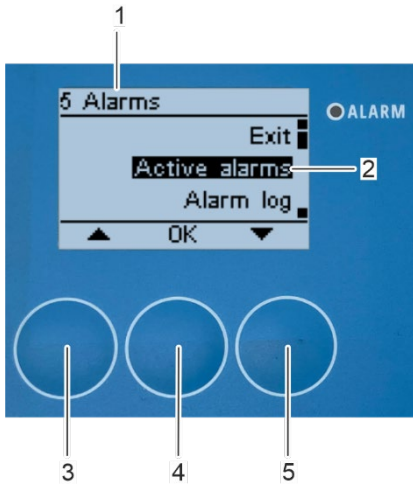

Fig. 184: Open submenu "Active alarms"
⇒ The "5 Alarms" submenu appears on the display (Fig. 184/1).
1. Select the "Active alarms" submenu (Fig. 184/2) with the arrow keys [up] (Fig. 184/3) and [down] (Fig. 184/5).
2. Confirm the selection with [OK] (Fig. 184/4).